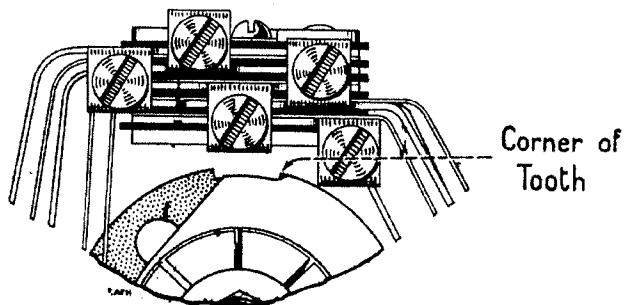
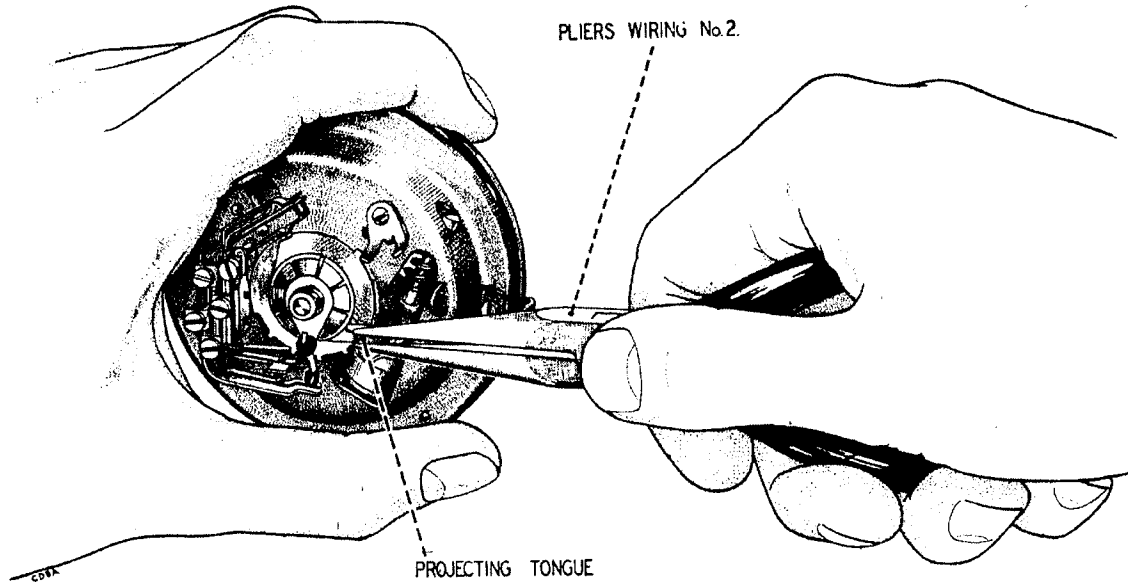

FIG.20. CHECK OF ADJUSTMENT OF SLIPPING CAM
FIG. 21. METHOD OF ADJUSTING THE
12. To ensure that the first opening of the contacts on any digit is not shortened, the corner of the impulse tooth should be just visible in the impulse recess of the slipping cam (see Fig.20) when the hole of any digit in the finger plate is pulled round to the finger stop. If the corner of the tooth is not visible, the projecting tongue of the slipping cam should be bent inwards; if too much of the tooth is showing, the projecting tongue should be bent outwards. When making this adjustment, the tongue should be gripped firmly, using "Pliers, wiring, No.2" as shown in Fig.21.